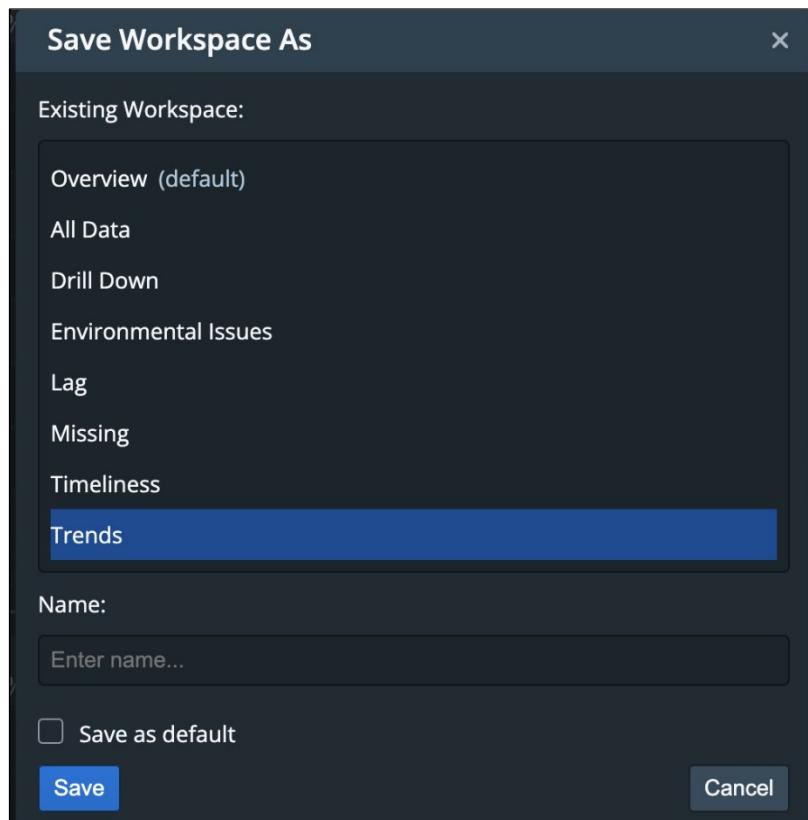

Figure 11. Save Workspace as Menu Options.
- 3) Save Workspace As –Saves a preferred UI layout (see Figure 11).
The user can make any desired workspace layout the new default by defining the layout to be made default (either by entering a desired name into the Name field or selecting a workspace layout from the Existing Workspace list), checking the Save as default option at the bottom of the context menu, then clicking Save. The default label (seen to the right of Overview in Figure 11) will now appear to the right of the new default layout.